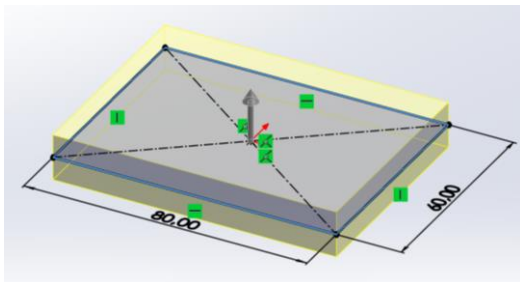
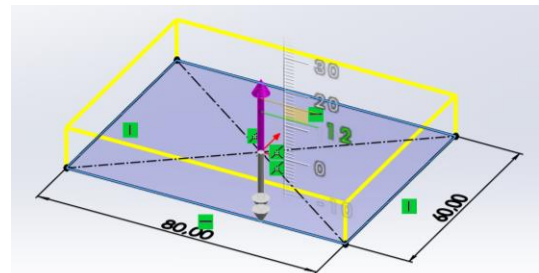

Fig. 3.2
Fig. 3.3
1. To a specified distance (**Blind**) – defines the limit of the extruded element by explicitly specifying the extrusion depth (the value can be specified numerically (fig. 3.2) or by directly dragging the arrow with the mouse (fig. 3.3)).
6. **Mid Plane** – the element is created by extruding the sketch to an equal depth in both directions from the sketch plane (fig. 3.2).